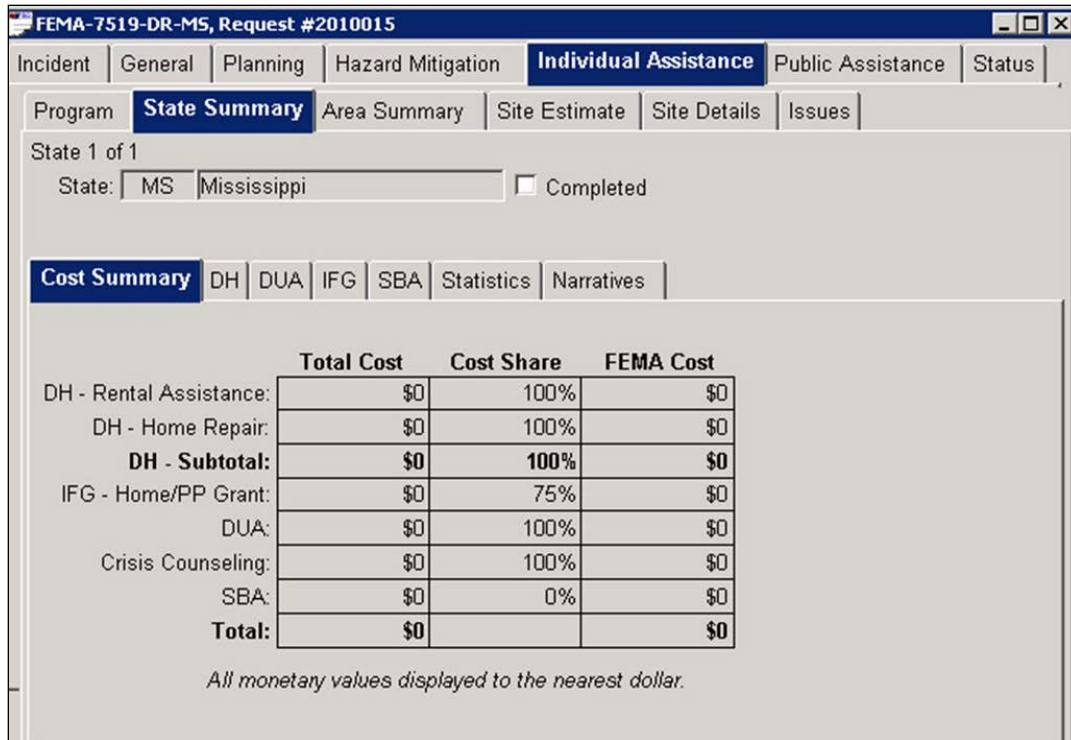

Figure 3-5: PDA > Individual Assistance > State Summary > Cost Summary Tab
10. On the top part of the screen, click the **Individual Assistance (IA)** tab. Steps 10a - 10c describe the sub-tabs under **Individual Assistance**.
- Among the seven sub-tabs, **Cost Summary** is displayed by default. The tab displays Individual Assistance Cost Summary information for the State (Figure 3-5).